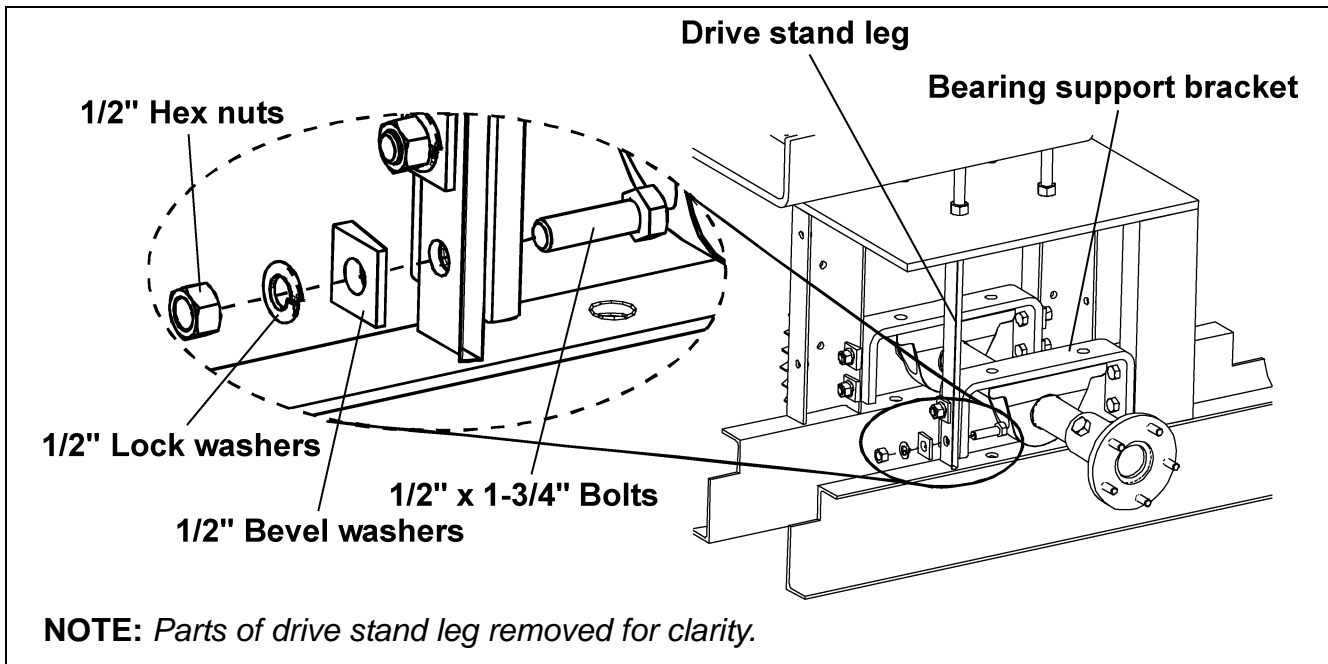

Figure 5S
- E. Bolt the bearing support brackets to the legs of the tractor drive stand using 1/2" x 1-3/4" bolts, 1/2" lock washers, 1/2" bevel washers and 1/2" hex nuts. (See Figure 5S.)